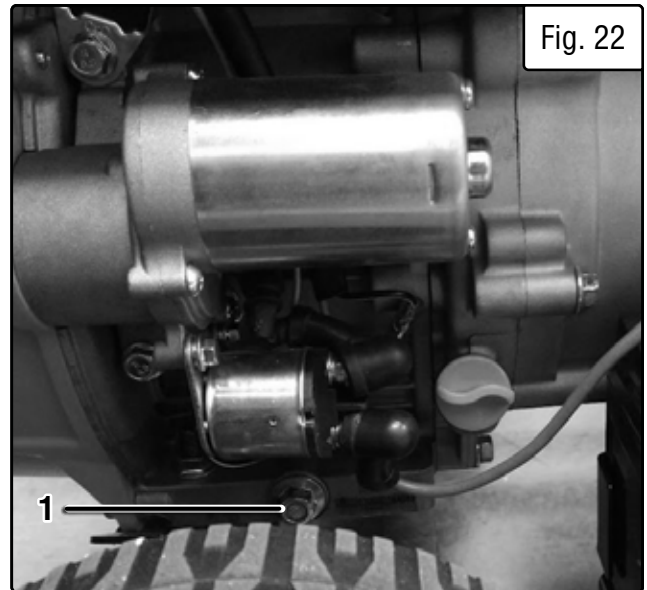

Fig. 22
2. Prepare an approved oil-storage container and place it below the oil drainage bolt (Fig. 22 - 1) to catch oil as it drains.